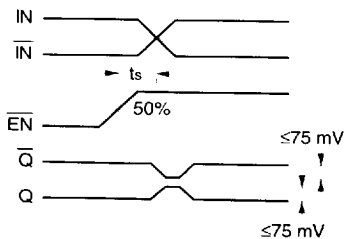

Figure 1. Set-up Time
- The set-up time is the minimum time that  $\overline{\text{EN}}$  must be asserted prior to the next transition of IN/ $\overline{\text{IN}}$  to prevent an output response greater than  $\pm 75\text{mV}$  to that IN/ $\overline{\text{IN}}$  transition (see Figure 1).